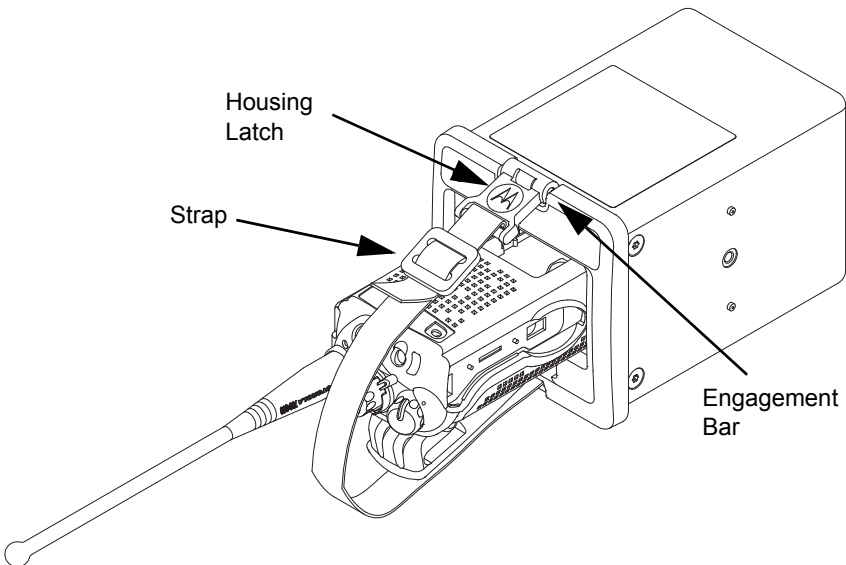

Figure 4 Radio with Battery, Antenna, PSM or RFA Attached
5. For radios with an antenna installed, loop the strap between the base of the antenna and base of the channel selector, and then engage the latch onto the Top Engagement Bar on the Faceplate. Adjust the strap through the Tri-Glide to secure radio with battery attached within the Vehicular Charger (refer to Figure 4).
For radios with a Public Safety Microphone (PSM) and RF Adapter installed, adjust the strap through the Tri-Glide to secure radio with battery attached within the Vehicular Charger (refer to Figure 4).